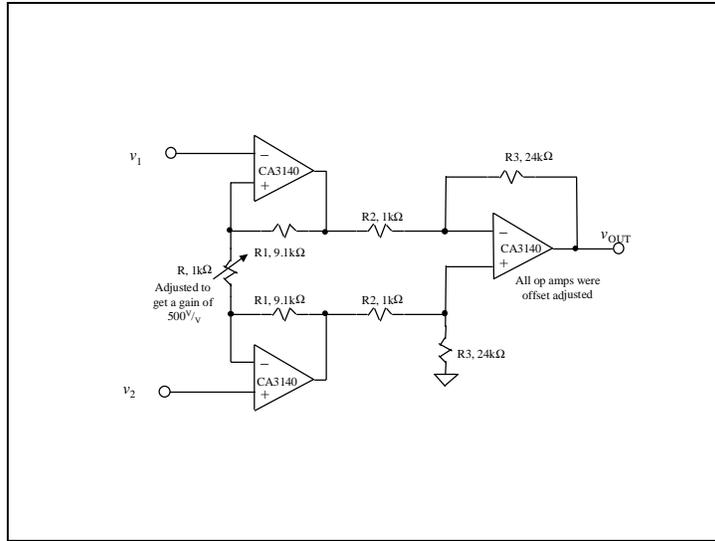

Figure 3.1b: Differential Input Voltage Amplifier
7. Because v_{ϵ} is too small, amplify v_{ϵ} before taking its measurements. For this purpose, a “500^{V/V} closed loop gain” differential input amplifier (as shown in Figure 3.1b on the next page) is built. The output of amplifier of Figure 3.1b is given as follows: